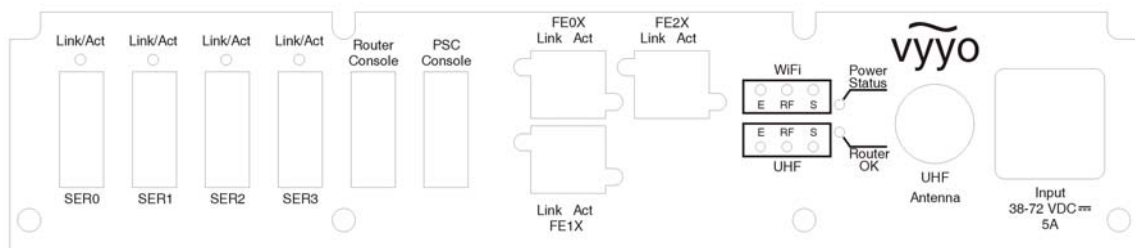

Figure 29: V390i Interface Panel LEDs
As shown in Figure 29, the V390i interface panel includes three WiFi LEDs: Ethernet (E), Status (S), and Radio (RF). These LEDs are used in combination to determine overall V390i device status.